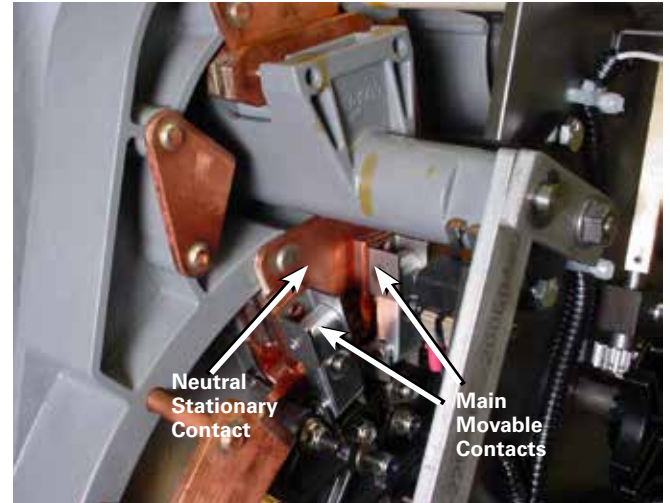

Figure 23. Neutral stationary contact position for main movable contacts.
- A. Main movable contacts are located on the neutral stationary contact, which is located at the 11 o'clock position and under the reversing switch movable contact assembly. See Figure 23.